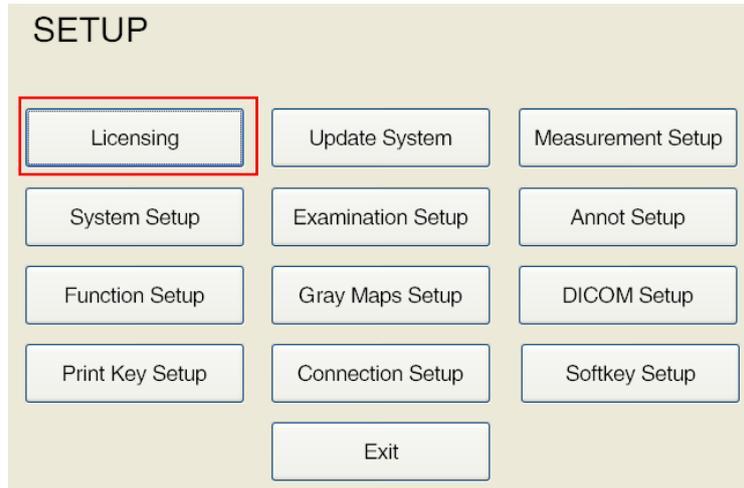

Fig. H-4 Main SETUP screen
- 1) Tap **Setup** on the touchscreen to open the main SETUP screen, as shown in Fig. H-4.